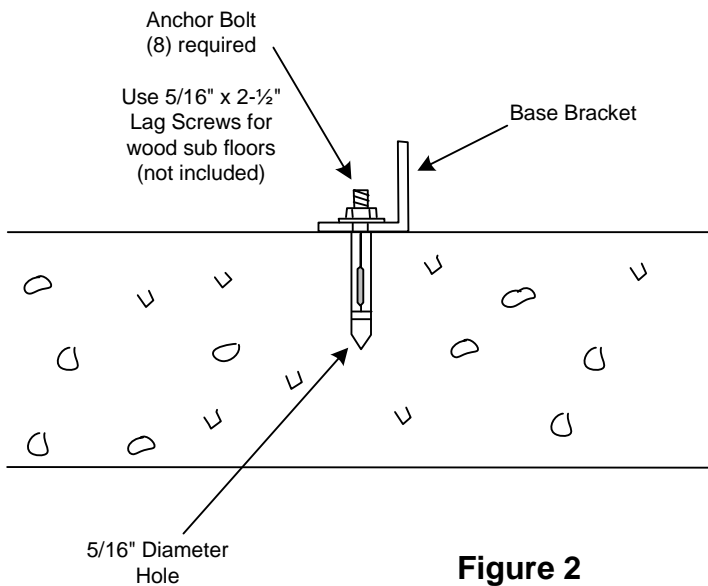

Figure 2
7. Remove frame and cut a flap in carpet where Base Bracket will come in contact with floor. Drill $\frac{5}{16}$ " holes in concrete $1\frac{3}{4}$ " deep and install anchors with metal sleeve so that sleeve is flush with the floor. Use hammer to insert anchor into floor Figure 2 a. If installing on wood sub-floors, drill pilot hole for $\frac{5}{16}$ " x $2\frac{1}{2}$ " Lag Screws and washers (not included).
Figure 2 a